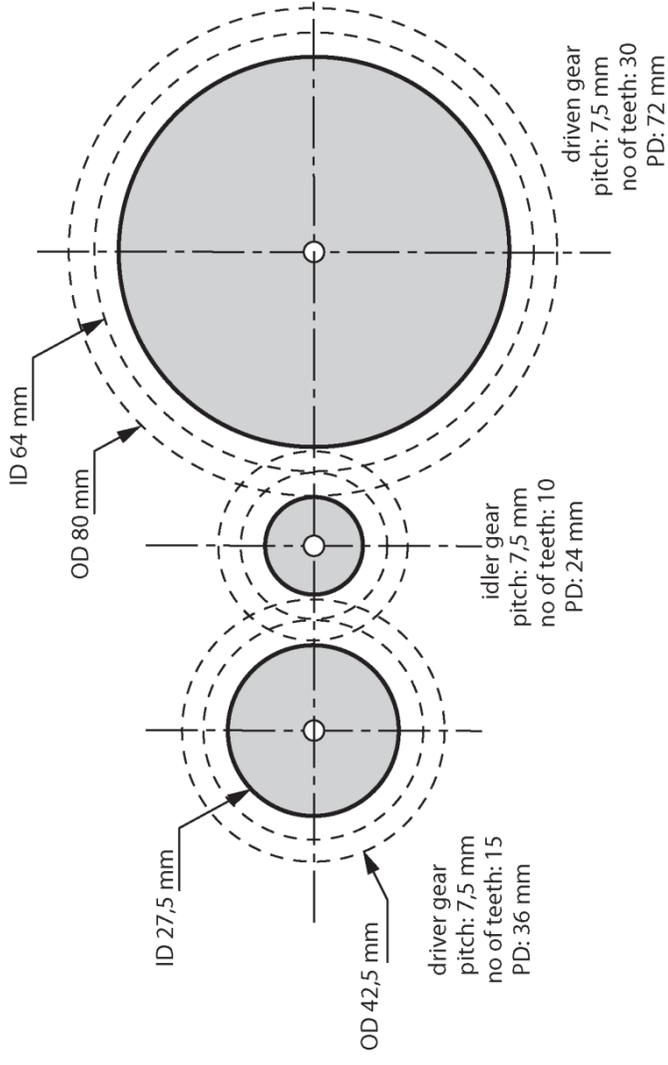

Figure 9: (This drawing is not drawn to scale.)
1. Draw the gear system in Figure 9 on grid paper, to a scale of 1:1.
The final drawing should look like Figure 9